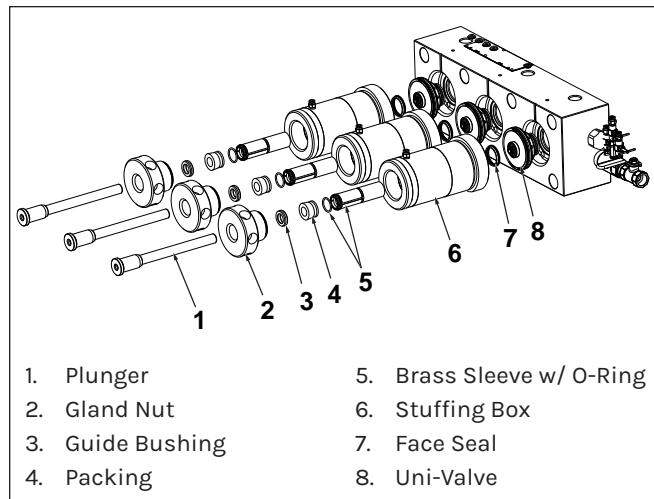
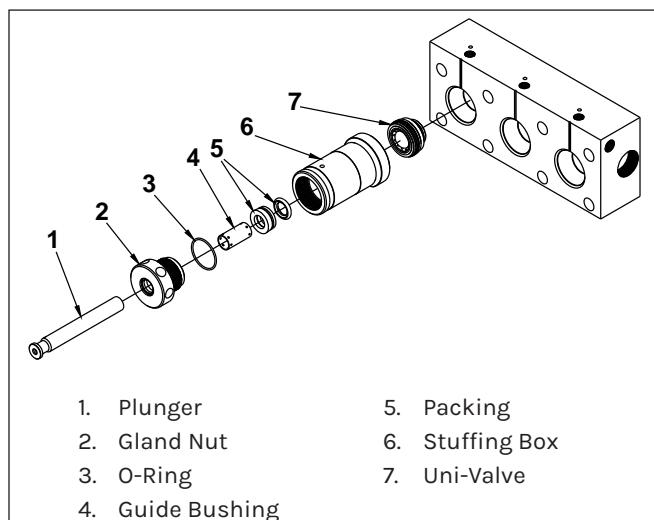

Figure 92: 15K/20K Fluid End (Some Components Not Shown).
Figure 93: 40K Fluid End (Some Components Not Shown).
**Note:** On 40K fluid ends, the brass sleeve (Figure 92) inside the stuffing box does not need to be removed unless the plunger shows evidence of rubbing on the sleeve.
11. Remove the O-ring (Figure 93) from the gland nut.
3. Place the new packing and guide bushing onto the plunger. Orient the packing as shown in (Figure 92) for 15K/20K and (Figure 93) for 40K.